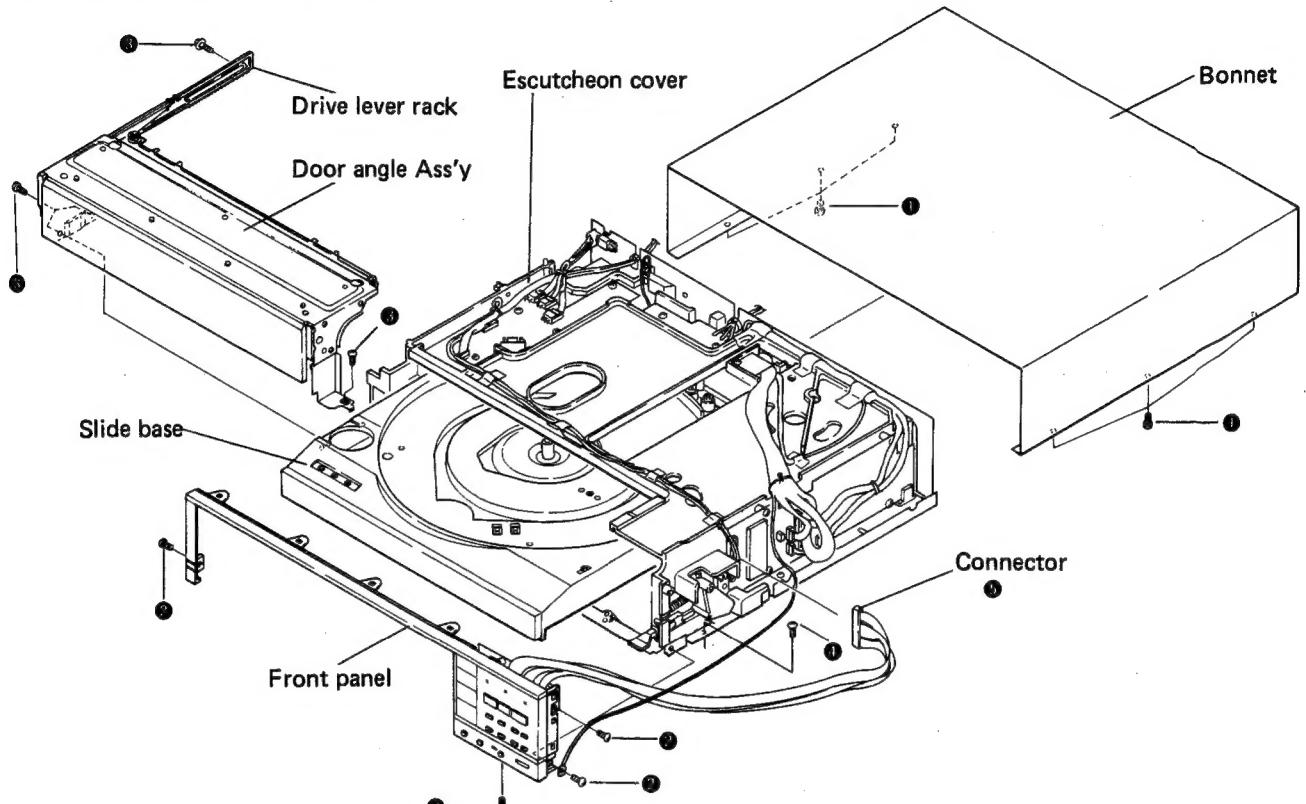

Fig. 1-1 Disassembly 1
2. Remove the rubber platter mat, turntable platter, and 45 rpm adaptor. Undo screws ① and remove the bonnet case by pulling off towards the rear (see Fig. 1-1).
3. Undo screws ② and remove the front panel (operation panel). This panel can be removed altogether if connector ⑤ is disconnected.
4. Undoing screws ④ enables removal of the door angle ass'y. Since the drive lever rack for opening the door engages the main gear in this door angle unit, perform this operation with due care (see Fig. 1-1).